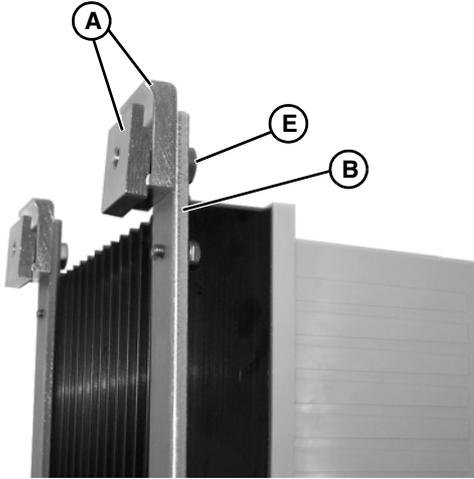

Figure 4
- Loosely attach clips (Figure 4, item A) to mounting bar (Figure 4, item B) with M6 x 16 mm screws (Figure 4, item E).
2. Loosely attach clips (Figure 4, item A) to mounting bar (Figure 4, item B) with M6 x 16 mm screws (Figure 4, item E).